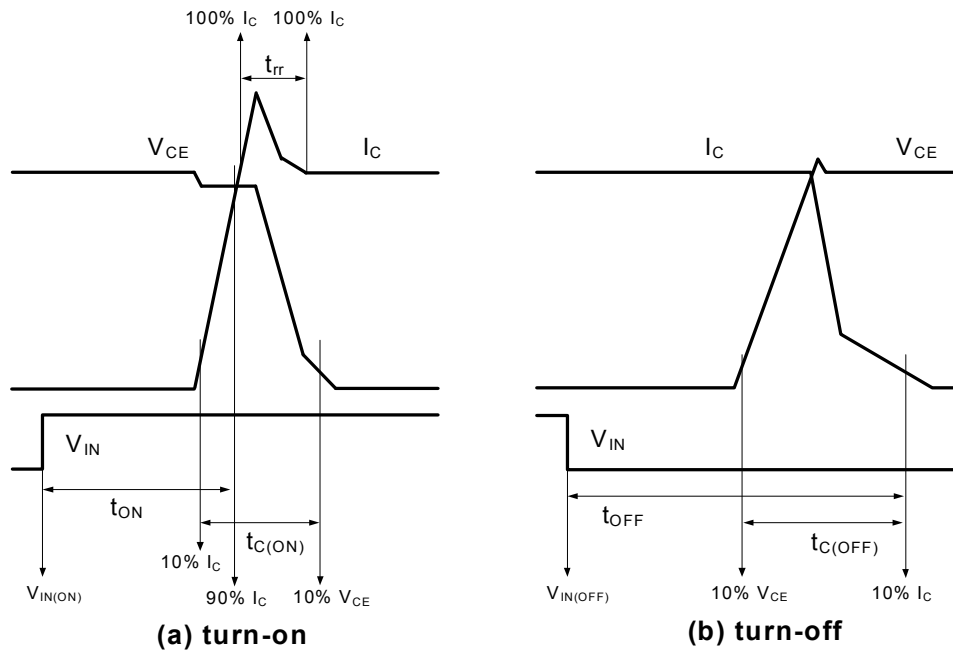

Figure 4. Switching Time Definition
4. t_{ON} and t_{OFF} include the propagation delay time of the internal drive IC. t_{C(ON)} and t_{C(OFF)} are the switching time of IGBT itself under the given gate driving condition internally. For the detailed information, please see Figure 4.